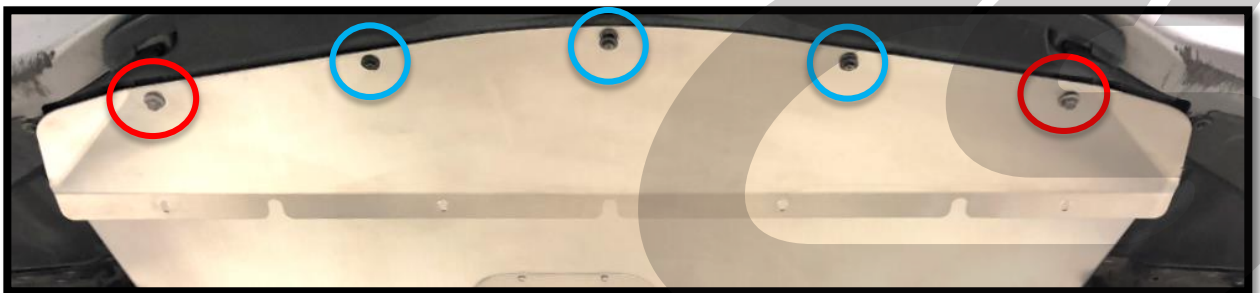

Figure 4b
- Lift the front section of the CorkSport Skid Plate into place and loosely secure it with the two (2) OEM 10mm bolts removed in Step 1i. These bolts are circled in red in **Figure 4b**.
- Loosely reinstall the remaining three (3) OEM 8mm bolts removed in Step 1j. These bolts are circled in blue in **Figure 4b**.